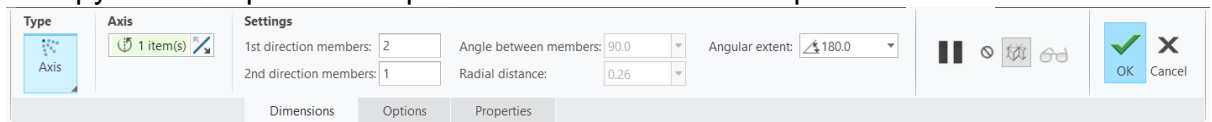

fig2.6
- Now use the pattern tool to replicate the part as shown in fig2.6 and repeat it to copy the sweep removed portion which will finish the portion2